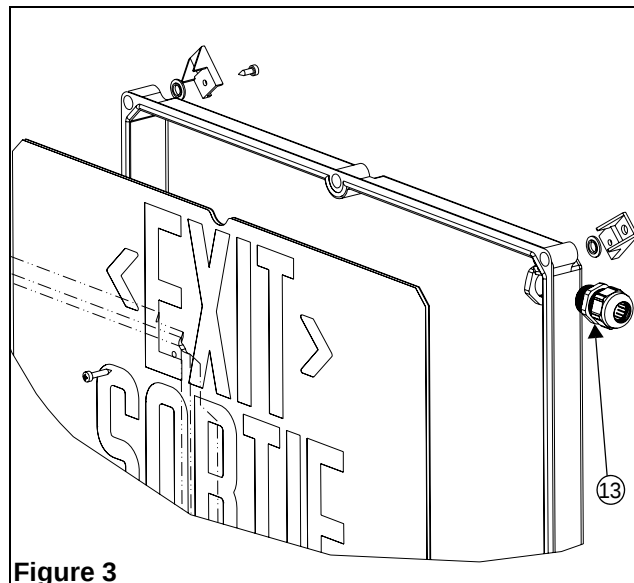

Figure 3
(see fig. 3 for part # 13)
| 6. Canopy | 13. Watertight fitting (see fig.3) |
2. Install the four plastic mounting brackets (see Fig.3). Use the plastic spacers between the housing and the bracket and tighten using the provided 10-32 x 3/8" screws.